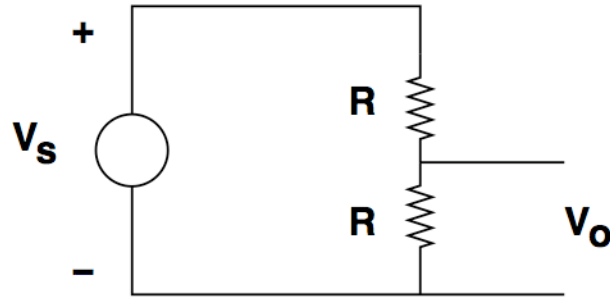
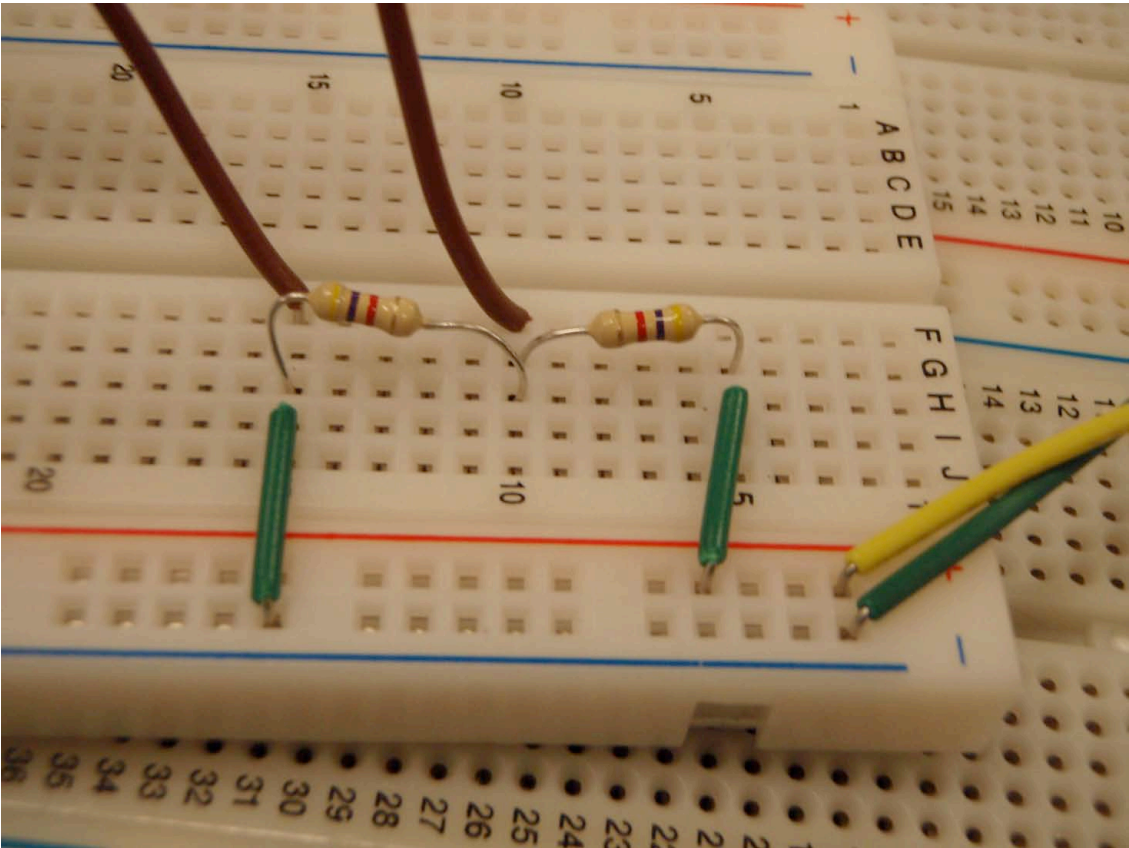

Figure 2: Voltage divider (schematic)
Figure 3: Voltage divider on protoboard
**Question 2: Voltage Divider** Build up the circuit whose schematic is shown in figure 2 on your protoboard. The result might look something like the what is shown in figure 3.